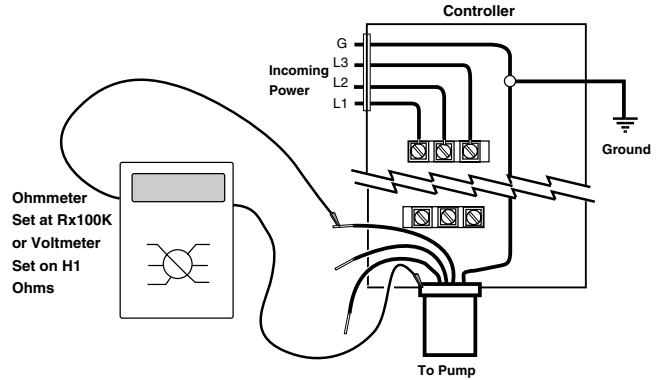

Figure 6: Ground Check
Ground Check (Figure 6)
4. Bolt the Suction Bracket (Key No. 24) to the Assembly Fixture (See Figure 6 for Fixture specifications). Make sure that the Shaft Assembly is correctly aligned and is down solidly on the Fixture.